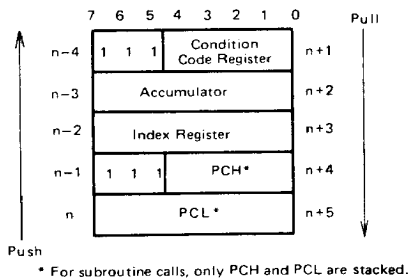

Figure 10 Interrupt Stacking Order
The MCU can be interrupted in seven different ways: through external interrupt input pin (INT_1 and INT_2), internal timer interrupt request (Timer 1, ICI, OCI and OFI) and a software interrupt instruction (SWI). INT_2 and Timer 1 are generated by the same vector address. When interrupt occurs, processing of the program is suspended, the present CPU state is pushed onto the stack. Figure 10 shows interrupt stacking order. Moreover, the interrupt mask bit (I) of the Condition Code Register is set and the external routine priority address is achieved from the special external vector address. After that, the external interrupt routine is executed. The interrupt